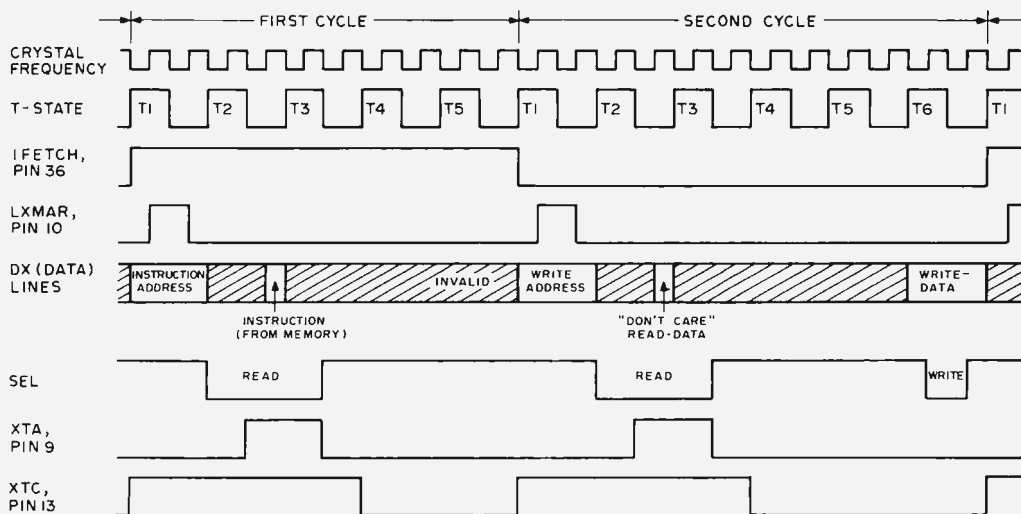

Figure 1: IM6100 CPU Timing Diagram. This is an example of the timing of several IM6100 processor signals during the execution of a DCA instruction.
Pin 9: XTA line. This timing line goes high once each machine cycle. It is typically used by external logic to indicate the "read" portion of the cycle. See the timing diagram of figure 1.
IM6100 timing is quite easy to understand. Refer to the basic CPU timing diagram shown in figure 1. This diagram is given in the form of an example the complete fetch and execute cycles of a DCA instruction. This instruction deposits the 6100 accumulator contents into a selected memory location, then clears the accumulator.
4. DX line data moves in both directions, to and from the 6100. Only in *some* T-states is this data valid; in other states these lines are in the high impedance state and just float. See the timing diagram, figure 1.